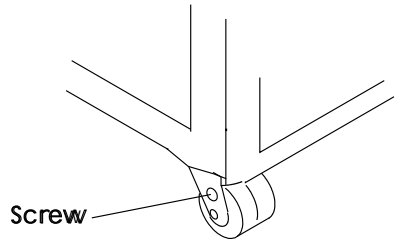

Figure 2-2. Caster Lock Screw
- Step 6. \_\_\_\_ Remove the CA tailgate cover in 01T-A1 to see the casters and the floor holes. Move the frame to its final position (see Figure 1-1 on page 1-1), and tighten the caster lock screws (see Figure 2-2 on page 2-3). At least two diagonally-opposed casters must be locked.
3. \_\_\_\_ Move the 3746-A11 to its final position and open the front and rear doors. Tighten the caster lock screws on the front wheels (see Figure 2-2 on page 2-3).
2. \_\_\_\_ Move the 3746-A12 to its final position and open the front and rear doors. Tighten the caster lock screws on the front wheels (see Figure 2-2 on page 2-3).
2. \_\_\_\_ Move the 3746-L13 to its final position and open the front and rear doors. Tighten the caster lock screws on the front wheels (see Figure 2-2 on page 2-3).
2. \_\_\_\_ Move the 3746-L14 to its final position and open the front and rear doors. Tighten the caster lock screws on the front wheels (see Figure 2-2 on page 2-3).
2. \_\_\_\_ Move the 3746-L15 to its final position and open the front and rear doors. Tighten the caster lock screws on the front wheels (see Figure 2-2 on page 2-3).